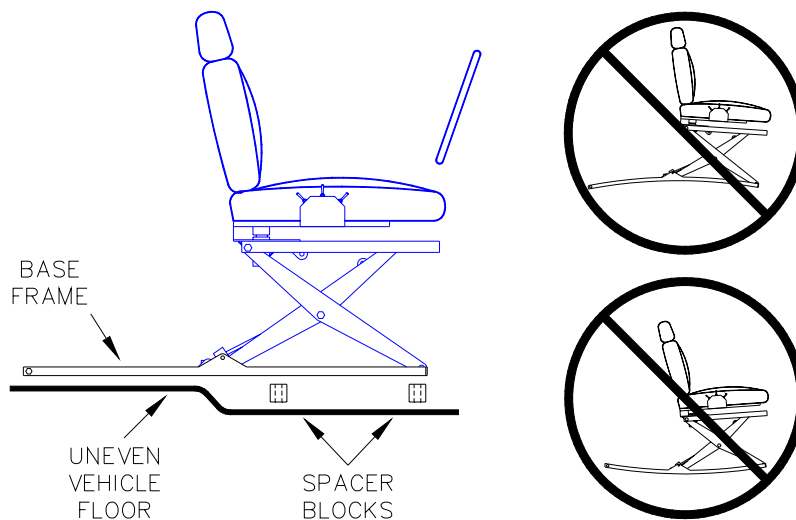

FIGURE 2-7: UNEVEN VEHICLE FLOOR PROFILE
- p. Refer to **Figure 2-7**. Determine if spacer blocks are needed between Base Frame and vehicle floor (due to floor surface being uneven). Fabricate spacer blocks if required and position between base frame and floor.